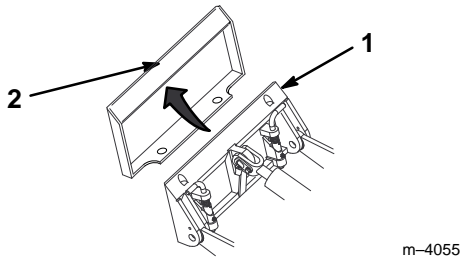

Figure 2
- Position the mount plate into the upper lip of the receiver plate on the drive head (Fig. 2).